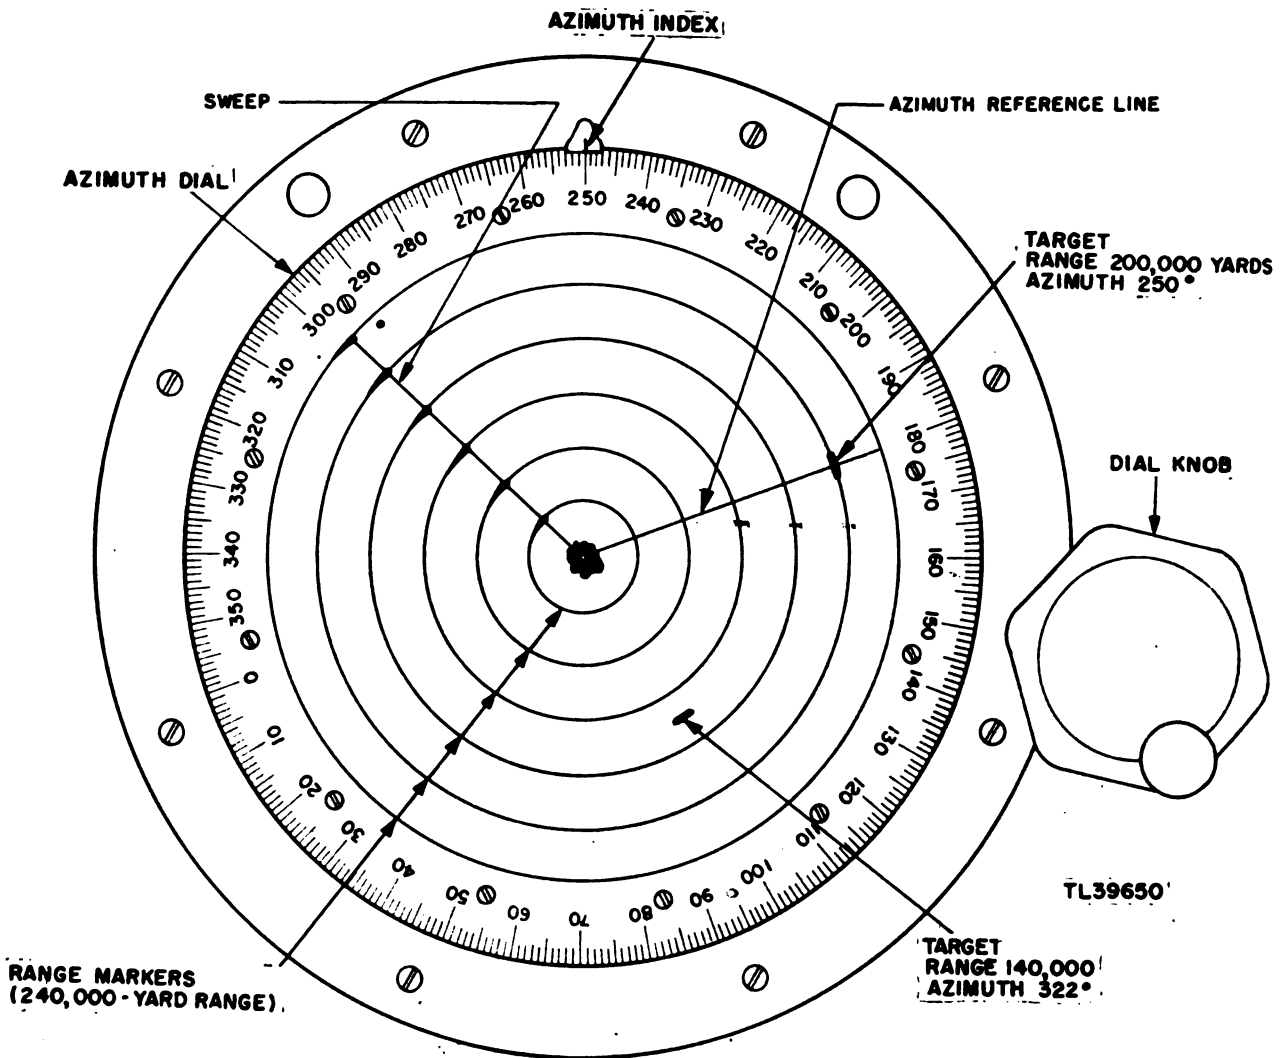

Figure 113. PPI scope, range and azimuth determination.
(2) Examination of the PPI scope face (fig. 113) reveals a reference line extending from the center of the scope face to the  $180^\circ$  mark on the azimuth dial. The azimuth angle is read on the azimuth dial under the azimuth index. Reference direction for azimuth is south as indicated by the reference line at  $180^\circ$ . To obtain the azimuth of a target, the azimuth dial control knob is turned until the reference line bisects the target trace.
(3) Range is estimated by pressing the COARSE markers button placing coarse range markers on the scope face. A more accurate range determination is made by pressing the FINE markers button placing both coarse and fine range markers on the scope face. Range of targets that lie between two markers must be interpolated.